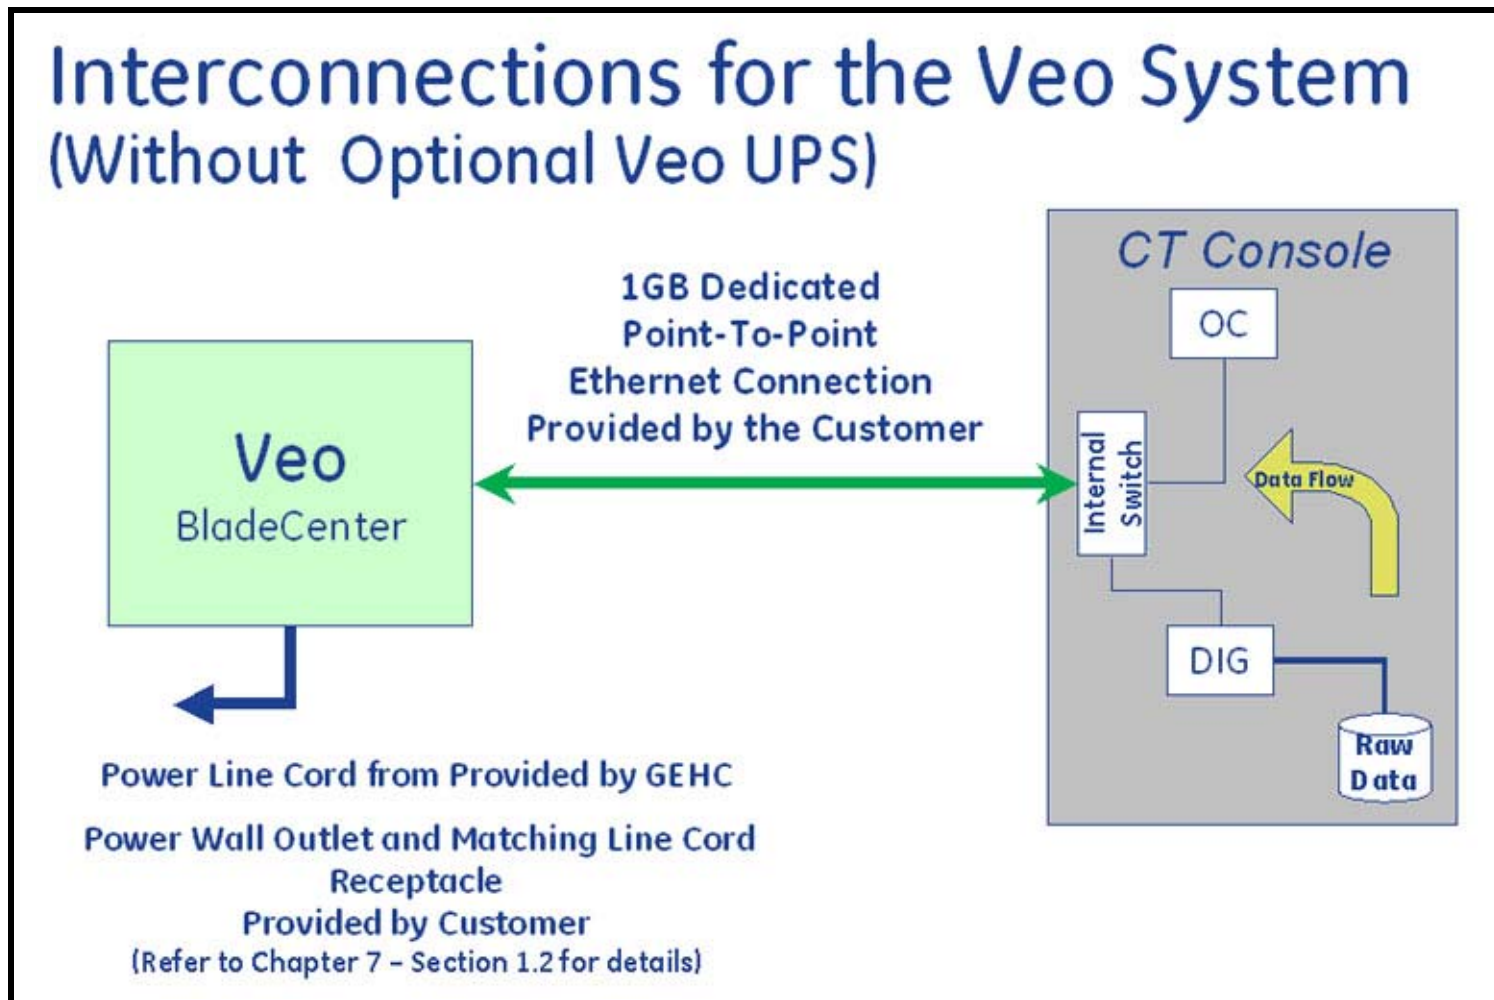

Figure 8-1 Veo Interconnection without optional UPS
- See Figure 8-1 for BladeCenter without optional UPS.